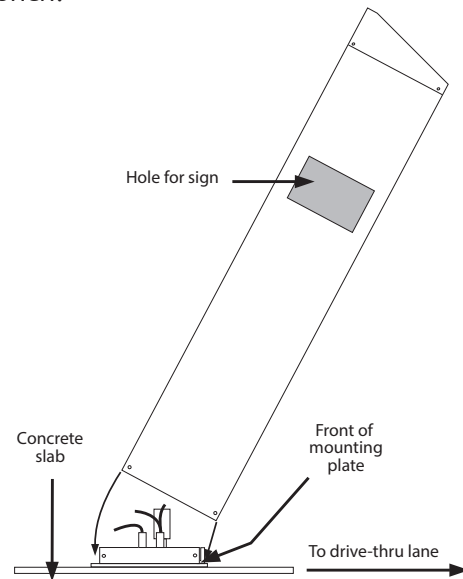

Figure 11.
8. Position the speaker post over the mounting plate as shown in Figure 11. Angle the inside-front of the post against the front of the mounting plate, then straighten the post over the plate. Reinstall the five hexagonal bolts and nuts that were removed from the holes at the bottom-front and sides of the speaker post, and tighten them in place with a socket wrench.